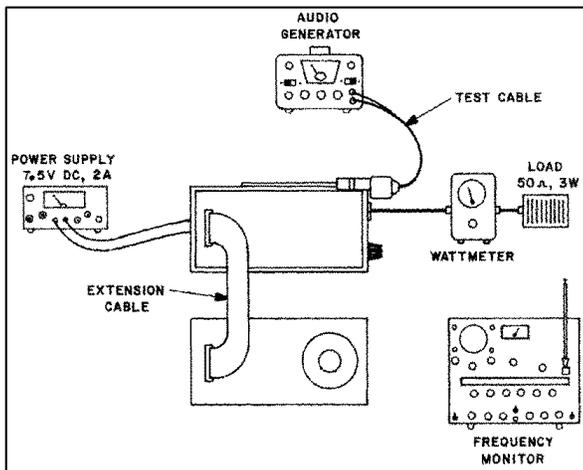
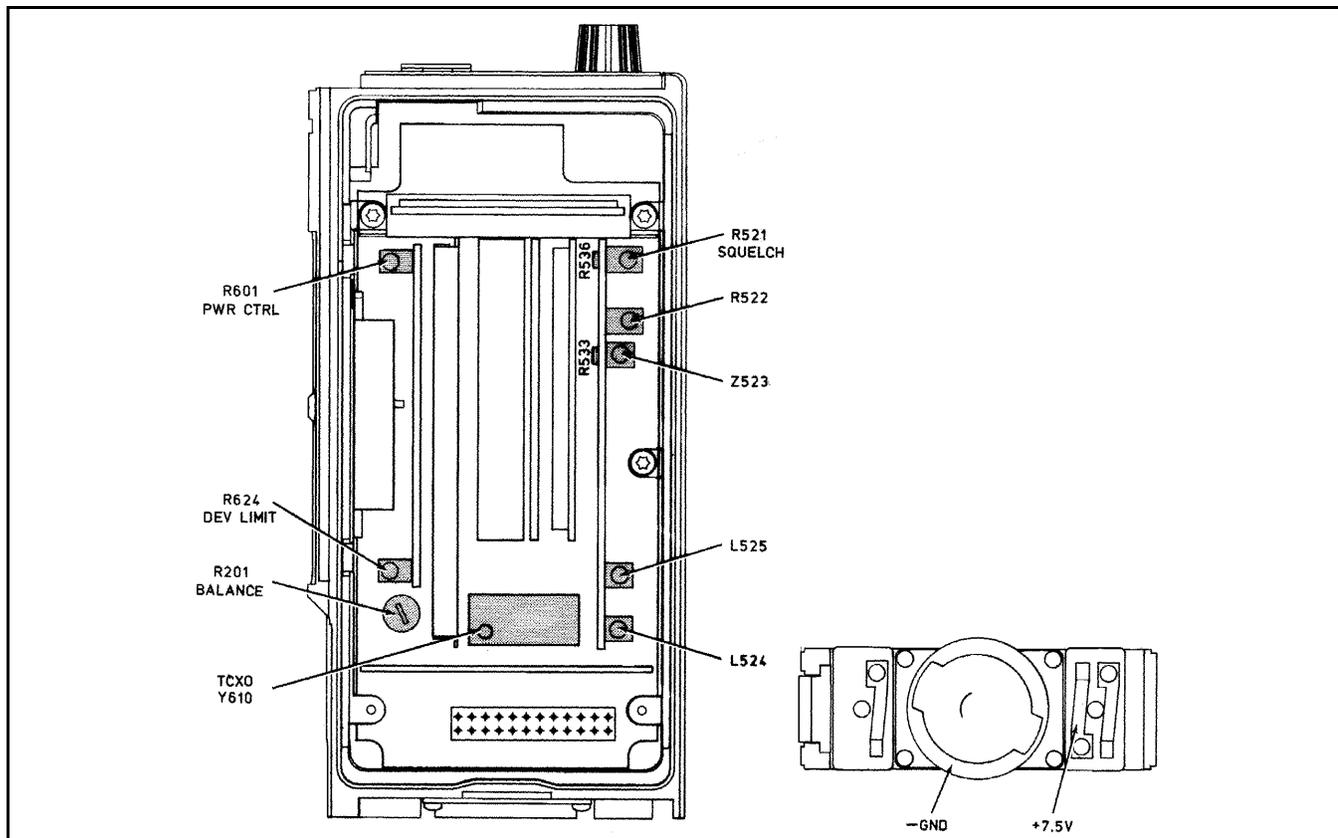

Figure 8-2 Transmitter Test Set-Up
Figure 8-4 Alignment Points Diagram
- d. Connect a 7.5-volt power supply to the transceiver (the 7.5-volt input terminal is shown in Figure 8-4).
Connect the test setup shown in Figure 8-2. Select a center channel (usually System 6). Refer to the alignment points diagram in Figure 8-4 and proceed as follows.
to the alignment points diagram in Figure 8-4 and proceed as follows: